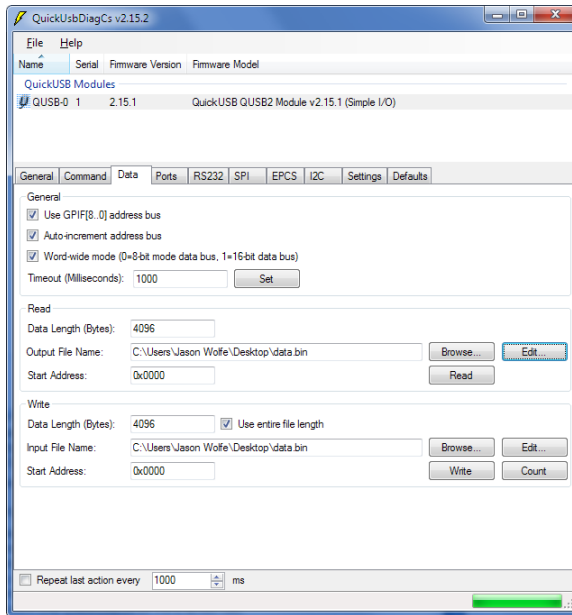

Figure 7 – QuickUSB Diagnostics Data Tab for Loop Back Test
- a. Navigate to the “Data” tab. Check the “Word-wide mode” checkbox if it is not already checked (see Figure 7). This will enable the QuickUSB Module to be in Word-Wide mode and use a 16-bit data bus. Note that the GPIF address bus is not used in Asynchronous Slave FIFO mode.